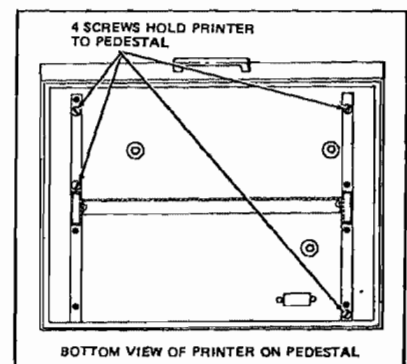

Figure 11
d. Locate the four threaded holes in printer bottom that did not retain the rubber feet removed in step c. These holes will receive screws that hold the printer to the pedestal (figure 11). Run 10-32 screws or tap into each of these holes to clear paint residue from threads.
e. Raise printer and rest it on pedestal, aligning holes prepared in step d. with matching holes in top bars of pedestal (figure 11).